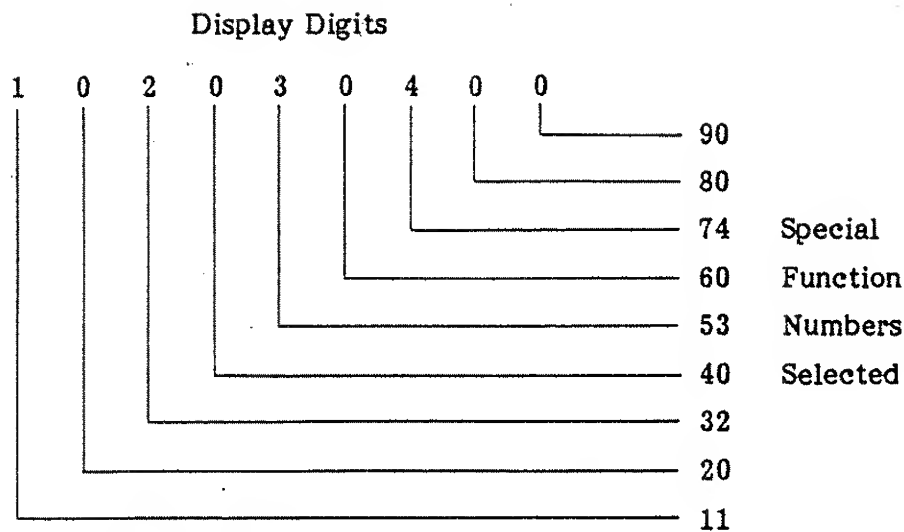

Figure 3.3 - Special Function Register Display
3.4.10.2 Special functions are organized by decades, one for each of the nine mantissa display digits. One special function from each decade is entered into a special function register. Only the second digit is stored; the decade is indicated by the position of the digit in the register. Default state has a 0 entered in each position. To recall the special functions setup, use key sequence SHIFT RECALL SF. Refer to Figure 3.3 for a typical special functions display.